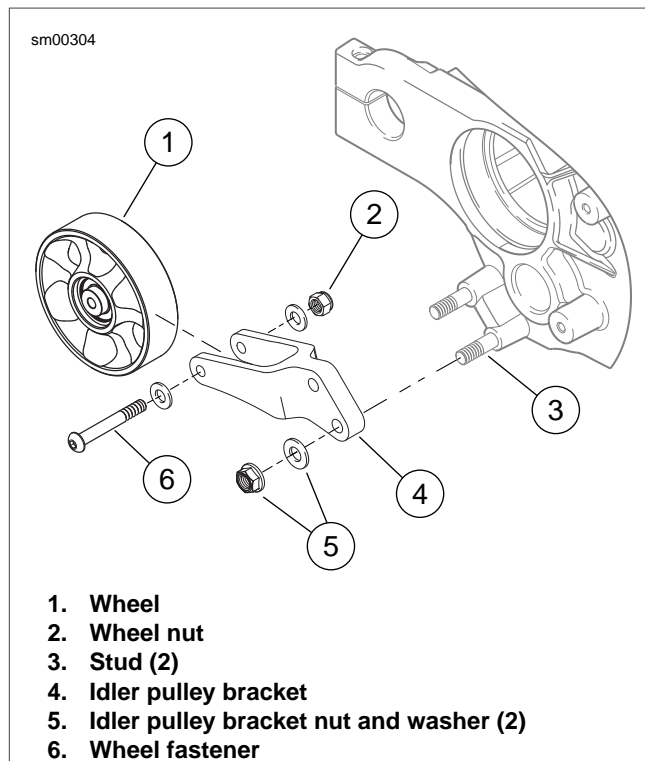

Figure 5-44. Idler Pulley Assembly
- See Figure 5-44. Remove idler pulley bracket nuts and washers (5) from studs (3).
- Slide idler pulley bracket (4) off studs (3).
- Inspect pulley by spinning wheel (1) and checking for wheel bearing wear. See 1.10 DRIVE BELT MAINTENANCE, Inspection.
- If pulley wheel needs replacement, remove fastener (6), washer and nut (2) from idler pulley bracket (4) and discard wheel. Replace with **new** pulley wheel (1).
- See Figure 5-44. Install **new** or existing pulley wheel (1), if removed, and tighten washer and nut (2) to wheel fastener (6) to 20-23 ft-lbs (27.1-31.2 Nm).
- Slide idler pulley bracket (4). Install washer and nuts (5) on to studs (3) and tighten to 33-35 ft-lbs (45-47 Nm). See 5.7 DRIVE BELT AND IDLER PULLEY, Drive Belt Installation.